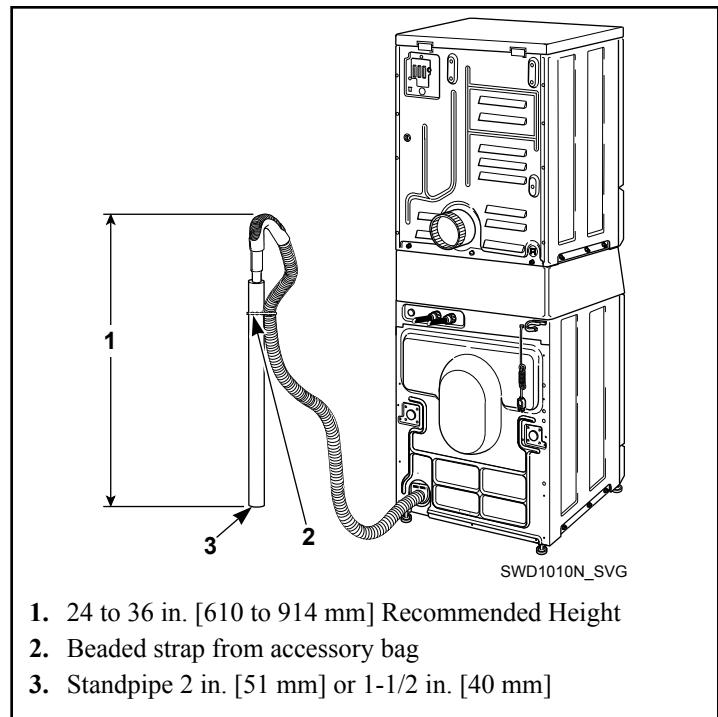

Figure 9
- Remove the beaded tie-down strap from accessories bag and place around standpipe and drain hose. Refer to *Figure 9*.